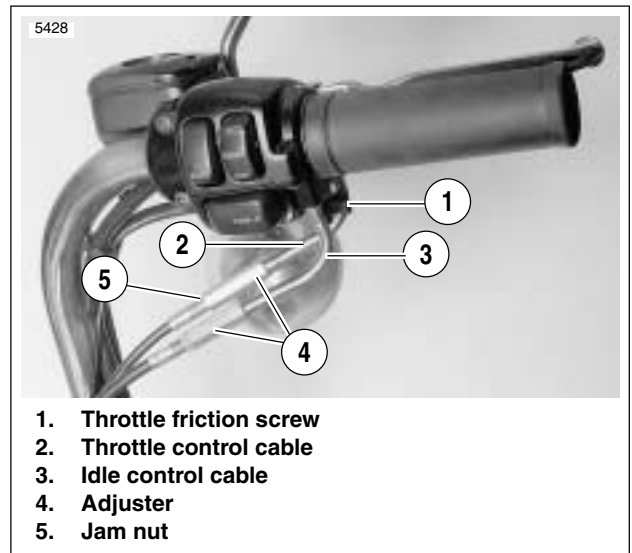

Figure 3-2. Throttle Cable Adjustment
1. See Figure 3-2. Slide rubber boot (if applicable) off each cable adjuster.
2. Loosen jam nut (5) on each adjuster (4).
6. See Figure 3-2. Tighten jam nut (5) on throttle control cable (2) adjuster (4); release throttle control grip.
8. See Figure 3-2. With throttle friction screw (1) loosened, twist and release throttle control grip a few times. Carburetor throttle must return to idle position each time throttle grip is released. If this is not the case, turn adjuster (4) on idle control cable (3) (shortening cable housing) until throttle control functions properly.
9. Tighten jam nut (5) on idle control cable (3) adjuster (4). Recheck operation of throttle control (Step 7).
10. Slide rubber boot (if applicable) over each cable adjuster (4). Recheck engine slow idle speed; adjust if required.